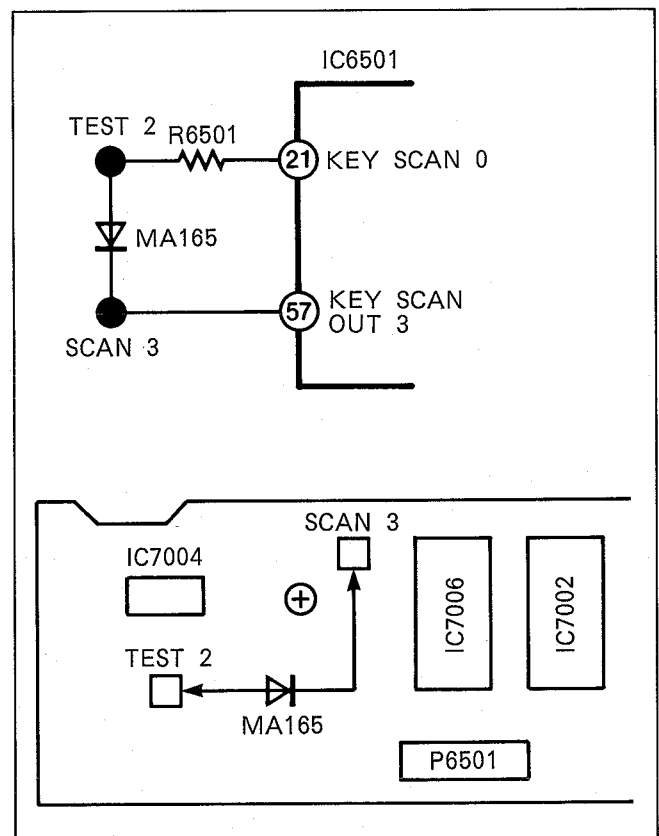

Fig. V21
1. Connect the jumper wire through diode (MA165) between TEST 2 and SCAN 3 as shown in Fig.V21.